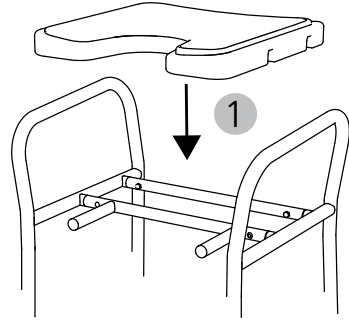

Abb. 7
3. Place the seat plate on the connecting pieces as required and press the seat surface down firmly until you hear it click into place on the connecting pieces (Fig. 7, 1). The assembly of the 9402-A (stool) is now complete.